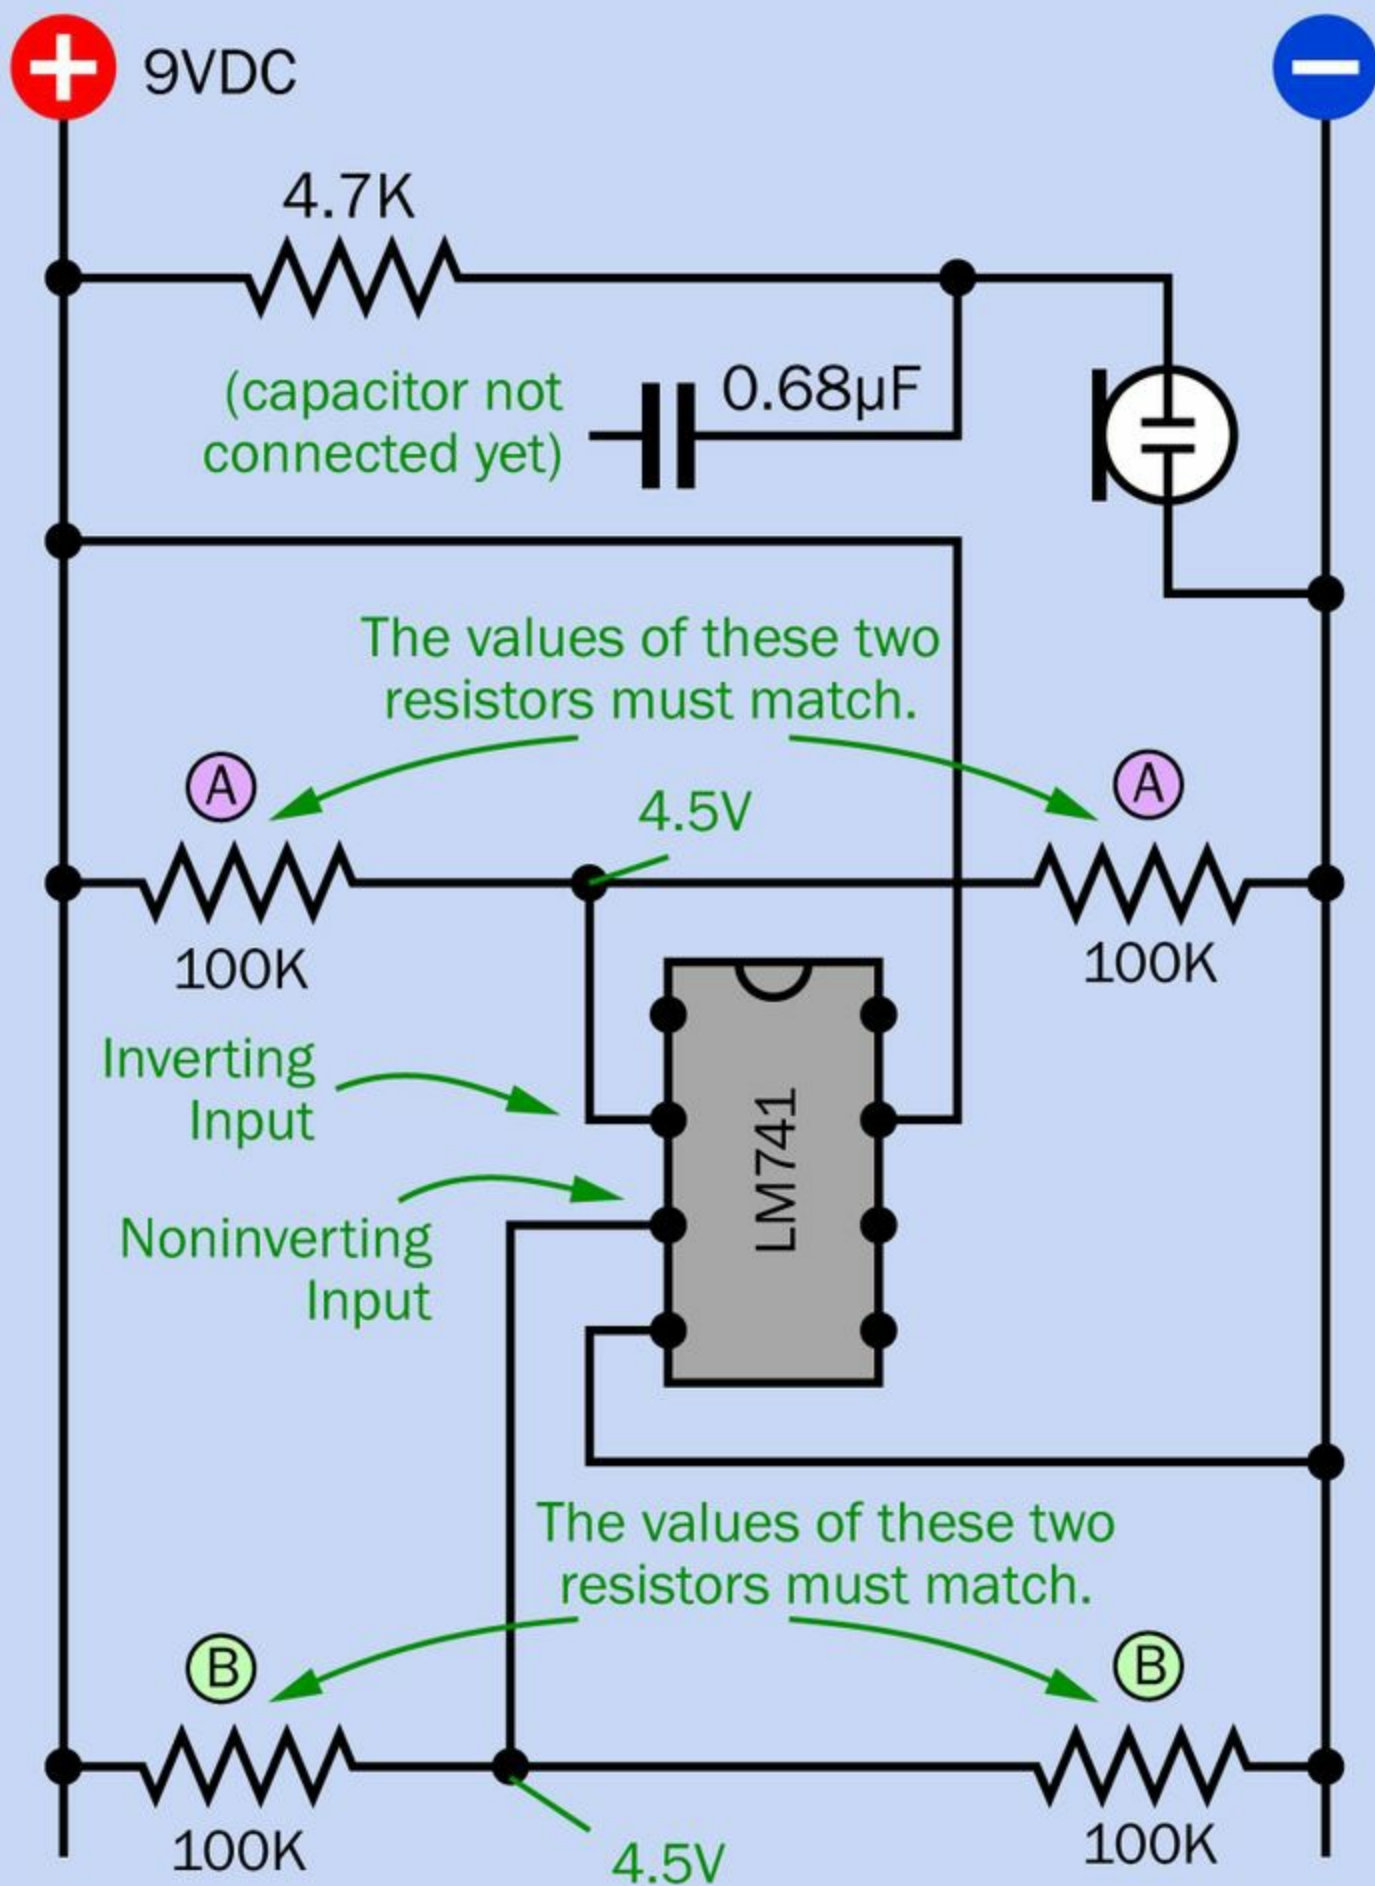

Figure 9-4. Setting up two voltage dividers to test the op-amp. If your battery does not provide exactly 9VDC, the voltage at
**Figure 9-4** shows how the circuit will look. It can be built as an add-on to the simple electret test circuit that you created previously.
Measure the values of, say, ten 100K resistors. Select two that have identical values, at least within the limits of accuracy of your meter. It doesn't matter what the resistor values are, so long as they are almost the same as each other. Use them as the “A” pair in **Figure 9-4**.
After you create the circuit in **Figure 9-4**, test the voltages on the inverting and noninverting inputs, relative to negative ground. They should both be equal to half of your battery voltage (which may be slightly more or less than 9VDC). If there is a tiny difference, don't worry about it. If there is a significant difference (such as one input being 4.7VDC and the other being 4.4VDC), you didn't select your resistor pairs carefully enough.